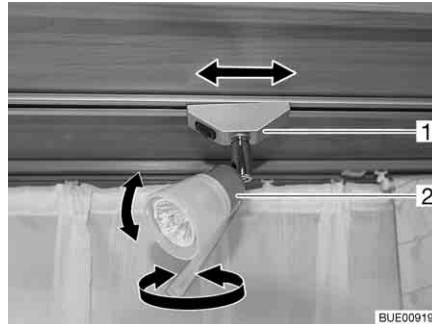

Fig. 59 Spotlight
- Grasp the housing (Fig. 59,2) and turn it.
- Grip holder (Fig. 59,1) and turn by approx. 45°.
- Grip holder (Fig. 59,1) and turn by approx. 90°.